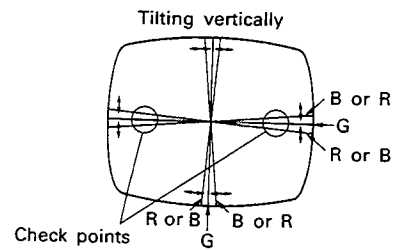

Fig. 4-6
- (1) Observe the horizontal lines at the center of screen. If the red and blue horizontal lines have shifted crossing the green horizontal lines, as shown in Fig. 4-6, converge by vertically tilting yoke. Then confirm that vertical lines at the screen center are also converged.